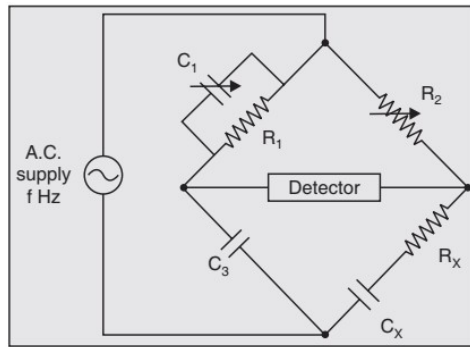

Figure Q3a
- a) For the bridge of Figure Q3a, determine the expression for
b) The Schering Bridge of Figure Q3a above has the following constants $R_1 = 1.5 \text{ k}\Omega$, $C_1 = 0.4 \text{ mF}$, $R_2 = 3 \text{ k}\Omega$ and $C_3 = 0.4 \text{ mF}$ at frequency 1 kHz . Determine